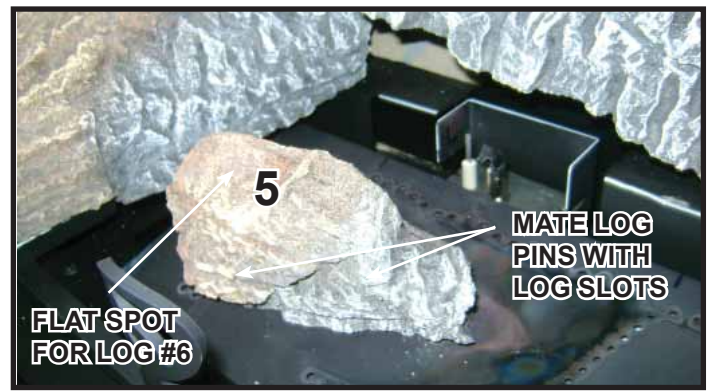
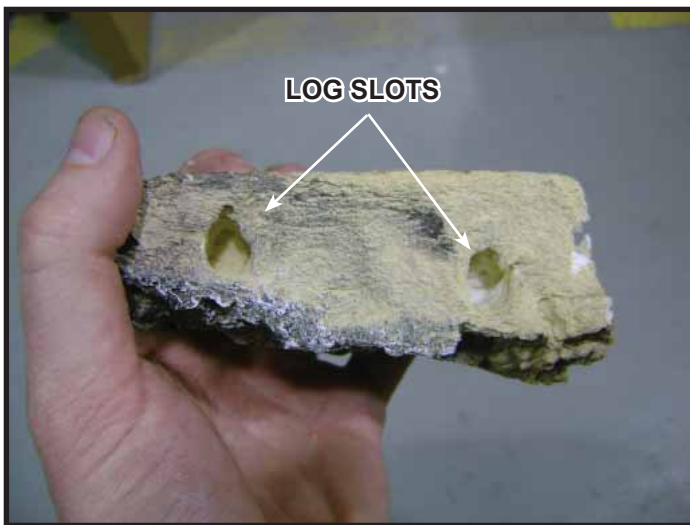
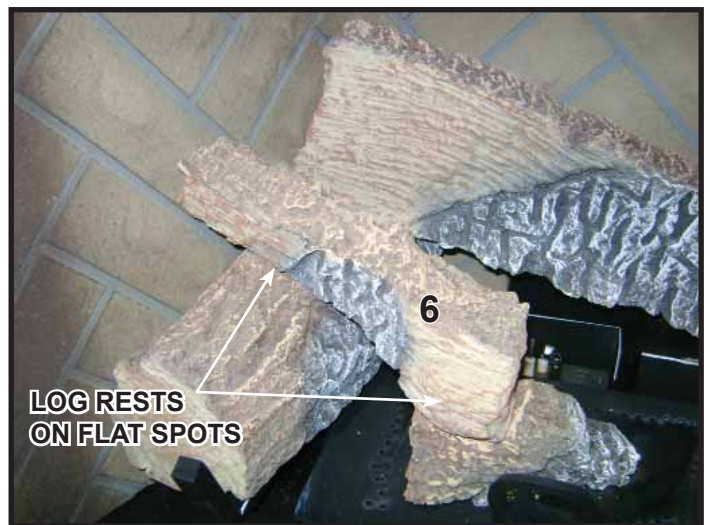

Figure 12. Place Log #5
Figure 13. Log #5
Figure 14. Place Log #6
**Log #5 (SRV2225-710):** Position Log #5 as shown in Figure 12. Mate the middle and left log pins with the two slots located on the bottom of the log. See Figure 13 for locations of log slots. The smaller end should be pointed toward the right side of the firebox.
**Log #6 (SRV2225-706):** Rest the wide end of the log on the flat spot of Log #5 as shown in Figure 12 and Figure 14. Place the narrow end on the flat spot of Log #2. Flat spot on Log #2 is indicated in Figure 7.